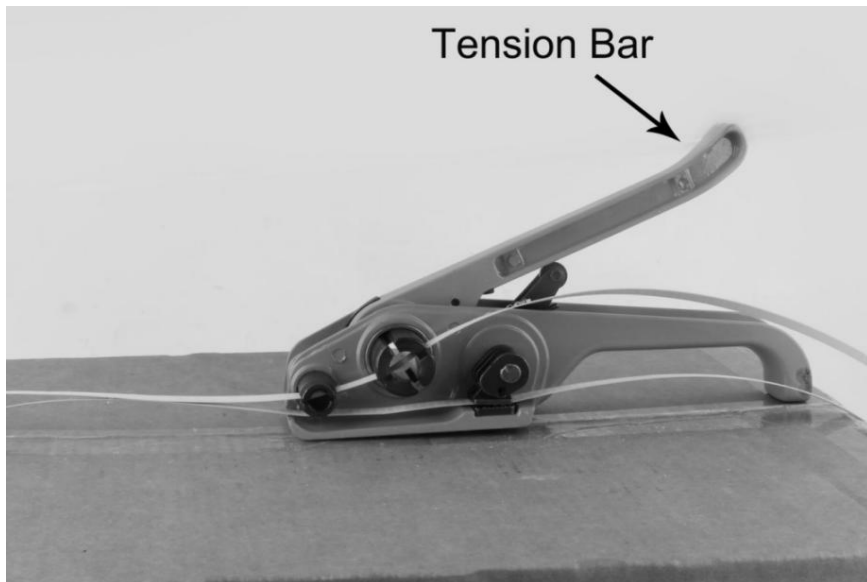

FIG.2-1
2. Put the packed the strapping slips into the cutter trough and the capstan trough, see FIG. 2-1 and 2-2